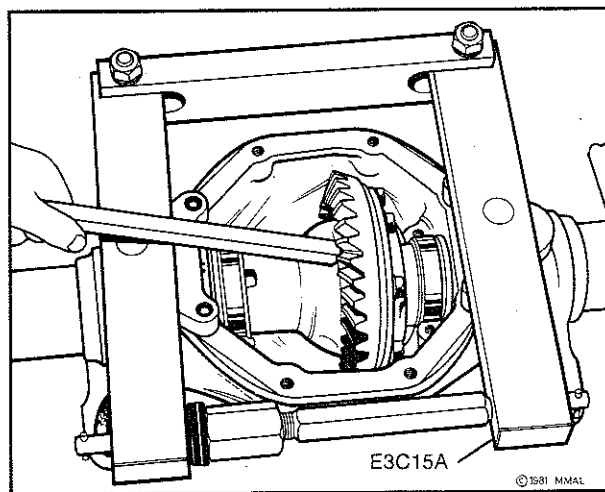

Fig. 22—Loosening differential assembly
(13) Spread the carrier 0,10-0,20 mm (0.004"-0.008") to permit removal of the differential.
(14) Remove dial indicator and remove differential assembly from carrier. A light prying action can be useful to unseat the differential from the carrier, refer Fig. 22. Identify bearing cups and preload spacers for location in reassembly. Do not remove spreader tool.